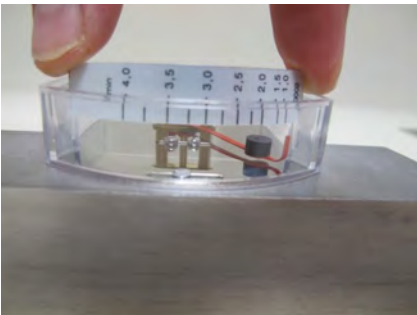

Fig. 64
- 15.** Insert the scale support (with affixed scale) into the guides in the plastic housing (Fig. 64). Observe direction of flow (lowest scale value toward inlet side of the device).